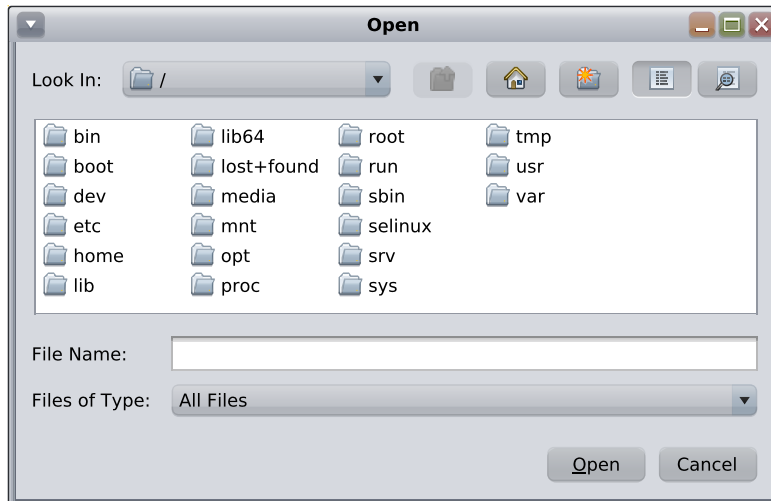

Figure 1.18: Dialog File Selection
- ▶ A file selection dialog (see [Figure 1.18 \[▶ 45\]](#)) is opened allowing the operator to select the protocol file. When **Open** is clicked, the dialog is closed and the selected protocol is appended to the scan program.